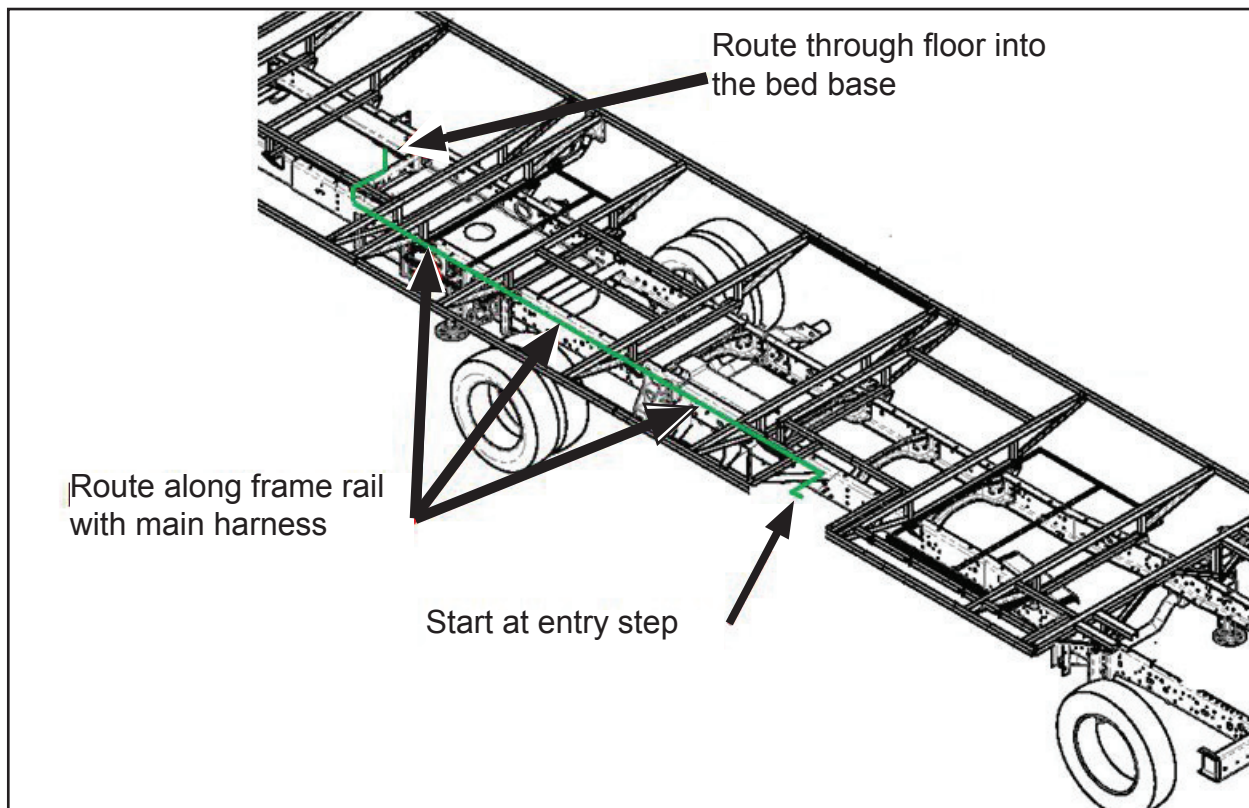

Figure 5
9. Route the remaining length of the new 16 gauge loomed wire out the side of the step well box, following along with the rest of the under-floor harness rearward down the chassis toward the bedroom area. Be sure to route the wire through the existing harness P-clamps. Additionally, install wire ties every 12" to secure the 16 gauge jumper wire to the rest of the harnesses. See Figure 5.